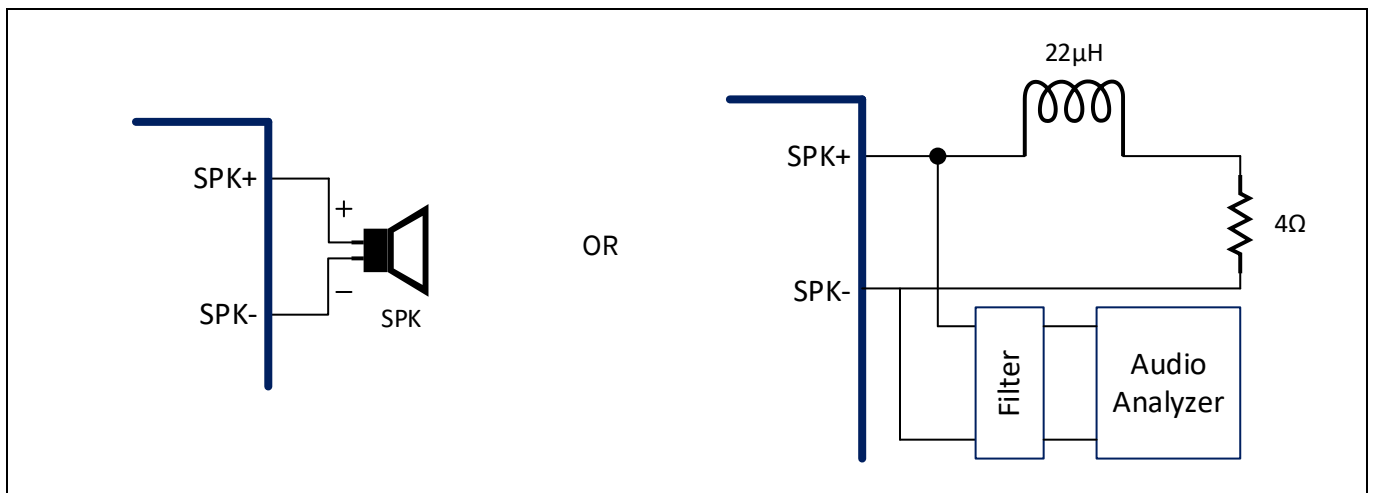

Figure 1 Setup for “speaker test” or “datasheet spec test”
- Loudspeaker and speaker wires, as shown in **Figure 1**
In addition, for datasheet spec testing, as shown in **Figure 1**: